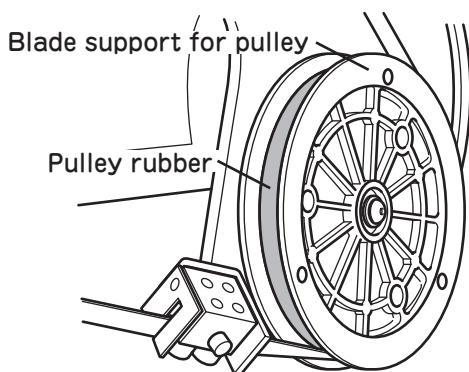

Fig.9
(1)Detach saw blade referring to 1-1)Replacement the Saw Blade (1)-(3)
(2)Using a screwdriver or the like, remove the saw blade support for pulley.[Fig.9]